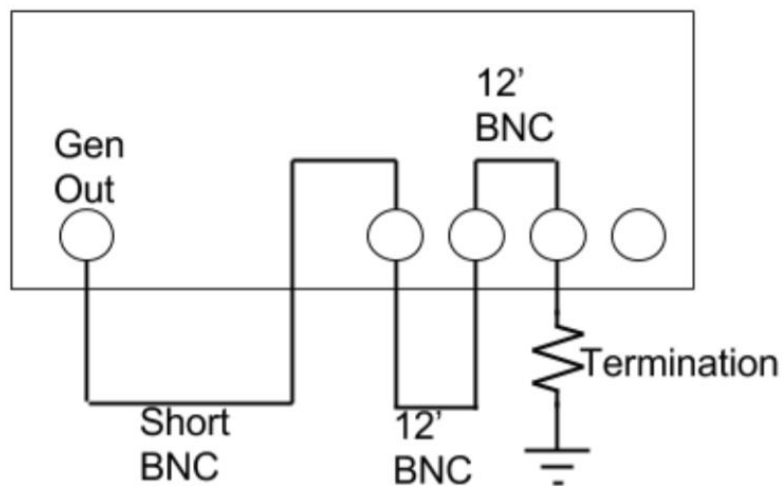

Figure 1
1. Consider an oscilloscope and function generator connected as shown in Figure 1. Calculate the voltage waveforms you expect to see at channels 1, 2 and 3 after Gen Out drives a 1V step onto the transmission line for the terminations listed below. Discuss both rising and falling edges.
3. Optional extra credit: Repeat your simulations of Figure 1 using a lossy transmission line element and an appropriate model to set your series resistance to 30milliOhm/m and then 10hm/m. How does this series resistance affect your measured waveforms? These links will help you implement a lossy transmission line model:
Required data in lab notebook: Schematics of simulations for figures 1, 2 and 3. Simulated time domain traces for each channel on figures 1, 2 and 3, and comparisons to calculated traces from theory section. Documentation on how you built your lab setup, including pictures. Time domain traces from the oscilloscope (NOT CELL PHONE PICS, EXPORT YOUR DATA) and comparison to simulated traces and theoretical calculations.